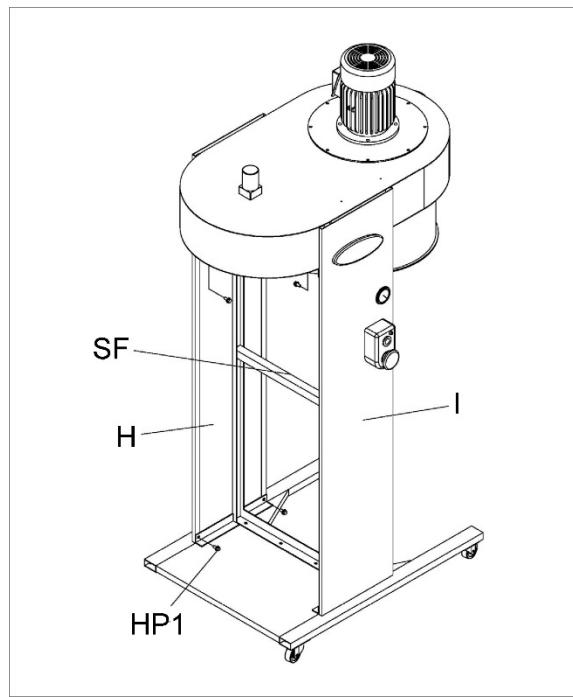

Figure 6
5. Attach left panel (I, Figure 6), and right panel (H) to frame (SF) with hex flange bolts (HP1).